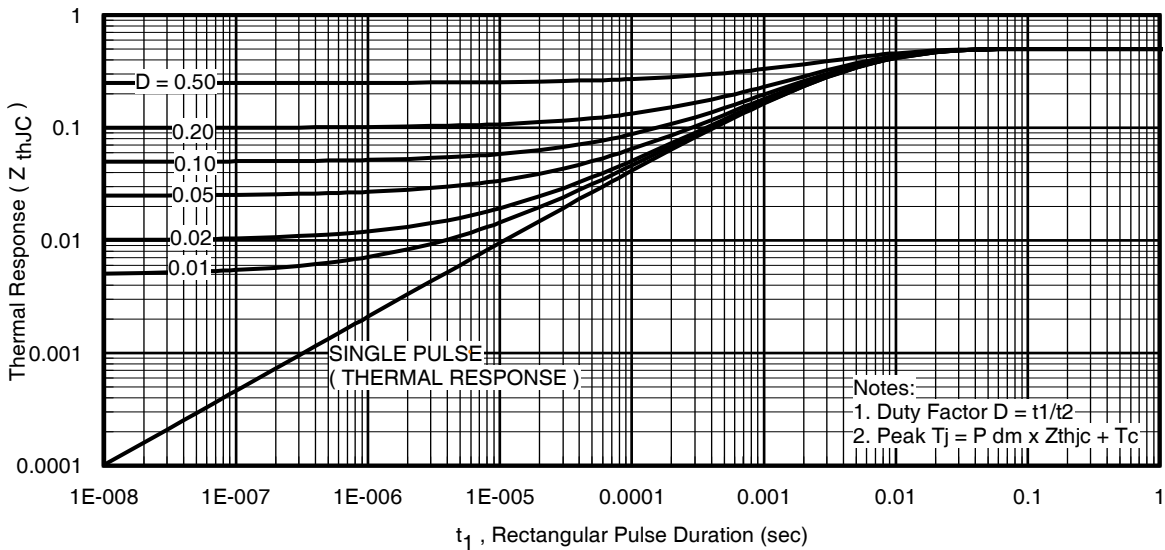
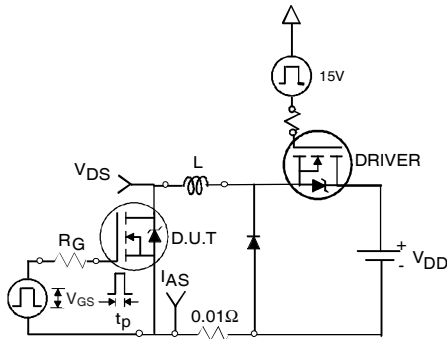

Fig 11. Maximum Effective Transient Thermal Impedance, Junction-to-Case
Fig 12a. Unclamped Inductive Test Circuit
- ① Repetitive rating; pulse width limited by max. junction temperature. (See fig. 11).
- ② Limited by T_{Jmax} , starting $T_J = 25^\circ\text{C}$, $L=0.24\text{mH}, R_G = 25\Omega, I_{AS} = 75A, V_{GS} = 10V$. Part not recommended for use above this value.
- ③ $I_{SD} \leq 75A, di/dt \leq 220A/\mu s, V_{DD} \leq V_{(BR)DSS}, T_J \leq 175^\circ\text{C}$.
- ④ Pulse width $\leq 1.0\text{ms}$; duty cycle $\leq 2\%$.
- ⑤ $C_{oss \text{ eff.}}$ is a fixed capacitance that gives the same charging time as C_{oss} while V_{DS} is rising from 0 to 80% V_{DSS} .
- ⑥ Limited by T_{Jmax} , see Fig.12a, 12b, 15, 16 for typical repetitive avalanche performance.
- ⑦ This value determined from sample failure population. 100% tested to this value in production.
- ⑧ This is applied to D²Pak, when mounted on 1" square PCB (FR-4 or G-10 Material). For recommended footprint and soldering techniques refer to application note #AN-994.
- ⑨ Max $R_{DS(on)}$ for D²Pak and TO-262 (SMD) devices.
- ⑩ TO-220 device will have an R_{th} value of 0.45°C/W .
3. Equation below based on circuit and waveforms shown in Figures 12a, 12b.
$Z_{thJC}(D, t_{av})$ = Transient thermal resistance, see figure 11)